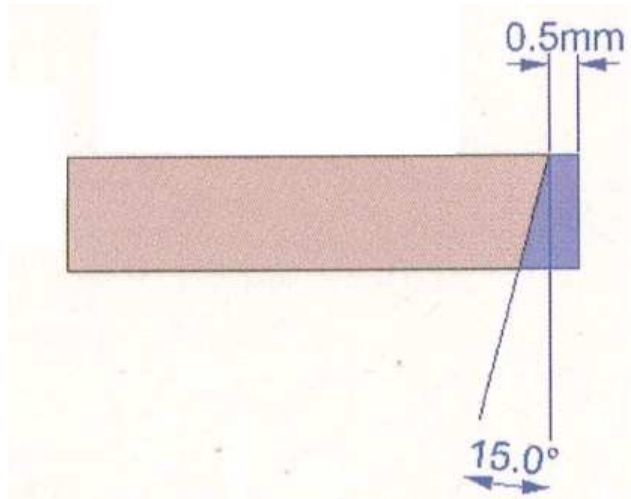

Figure 3 : targeted geometry after cutting
- Cut angle = 15° (corresponding to 65° flank angle, see fig.3)